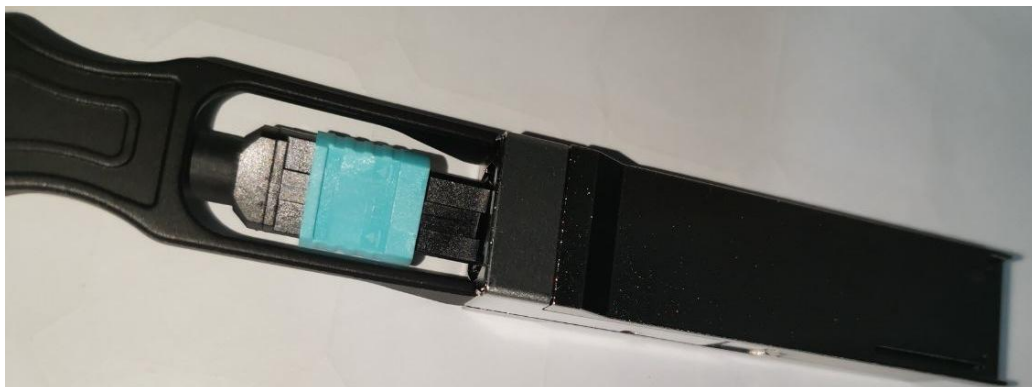

Figure 3-3
1) Insert the QSFP+ end of the fiber cable into the standard QSFP+ optical module, as shown in Figure 3-3. The interface has a fool-proof design, so pay attention to the direction of insertion. After insertion, you should hear a "click" sound, indicating that the connector is fully inserted.